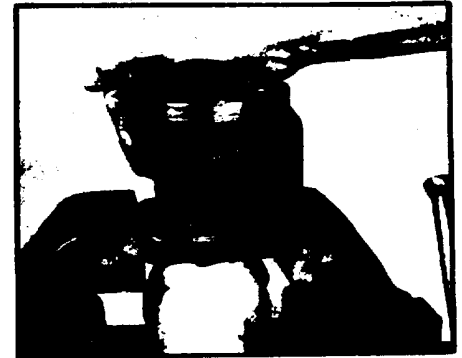

Figure 16
13. Replace drive link (8) into mesh with coupling shaft (11) and -exert a downward force on it with the palm of one hand while pulling down and rotating the coupling shaft with the other hand; SEE FIGURE 16. A damaged thrust bearing (14) package would be indicated by roughness "felt" or heard during this procedure and would require thrust bearing and thrust washer (13) removal for further inspection in subsequent procedures. Remove drive link.